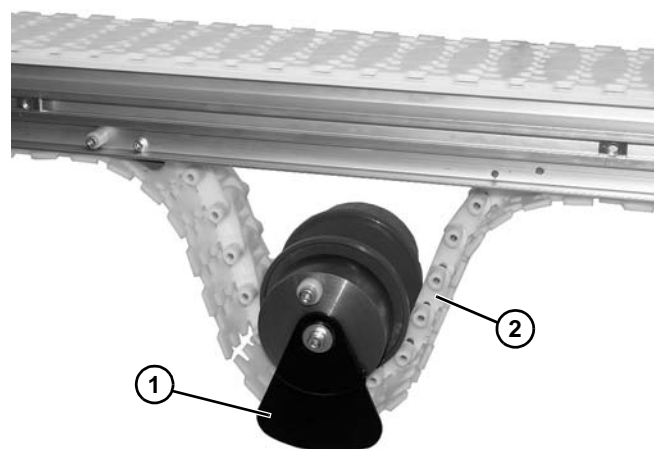

Figure 59
1. Install idler pulley assembly (**Figure 59, item 1**) onto belt (**Figure 59, item 2**).